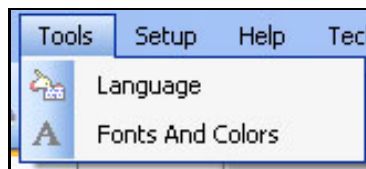

Figure 31: Tools menu option
1. In the Tools menu, select **Language** (Figure 31).